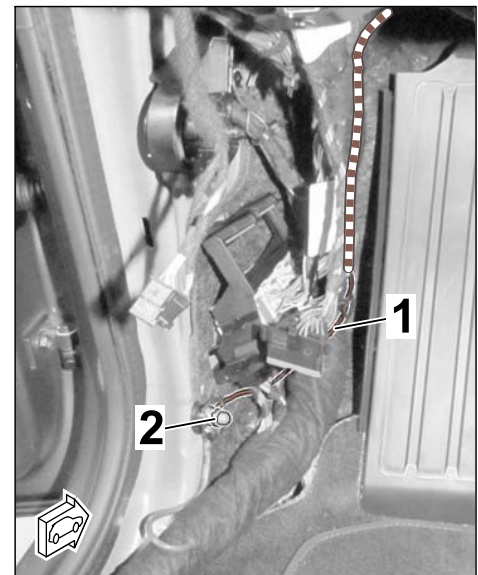

Figure 35
2.7 Route line BN; 1.02 with cable shoe (ground) to the ground pin MB 21 (left-hand drive)/MB 22 (right-hand drive) and fit it (⇒ *Figure 35*).